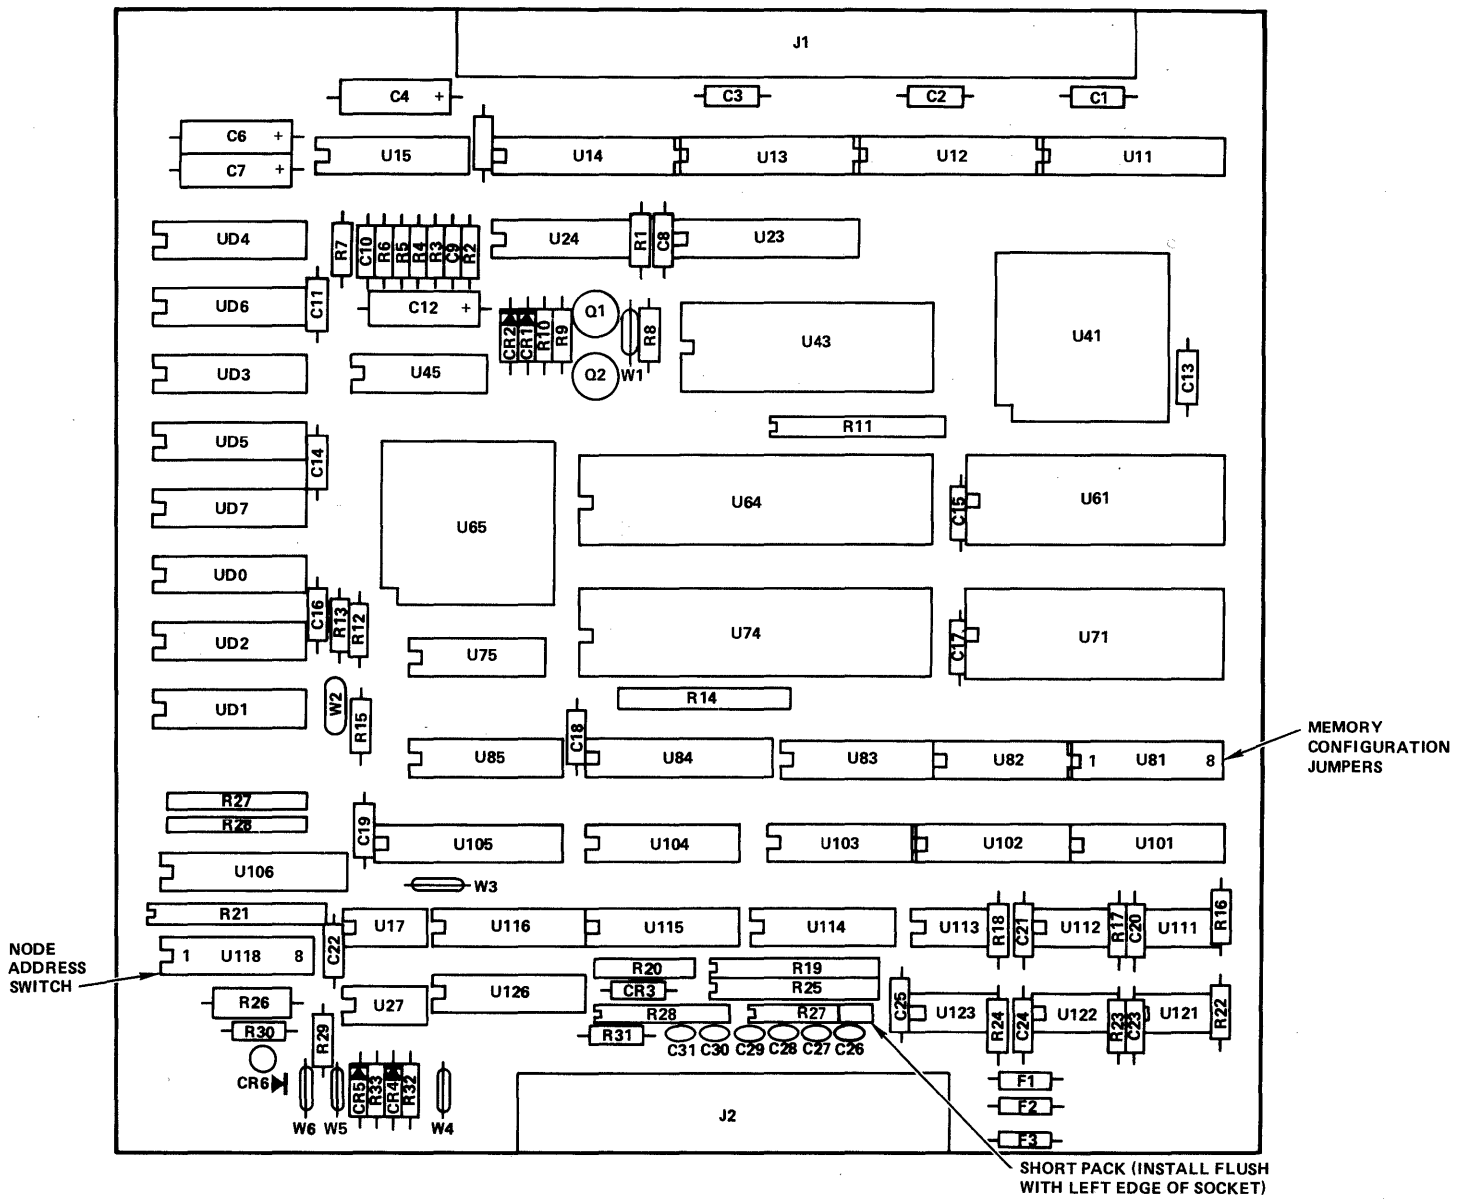

Figure 1. PSI SRM Component Locations
2. Verify that the Memory Configuration jumpers (U81, see figure 1) are configured correctly for the EPROMs/RAMs installed on the card. For the PSI SRM card, jumpers should be installed in jumper positions 2, 4, and 5. Jumpers should *not* be installed in any of the other jumper positions.
3. The Node Address switch (SW1 through SW8) at location U118 (see figure 1) is used to set the node address for the PSI SRM card.
4. Check to see that the load resistors are installed in their correct positions, and that the "short pack" is in the correct socket (see figure 1). Be sure that the "short pack" is installed flush with the left edge of its socket (the pin 1 edge).